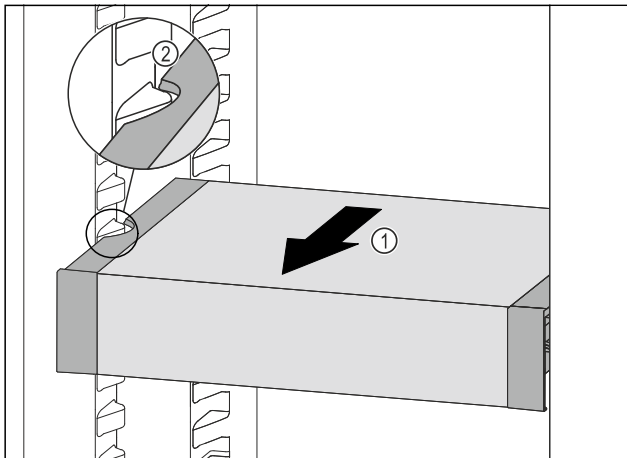

Fig. 99
- Pull VarioSafe forward Fig. 99 (1) until the recesses in the side of the VarioSafe are at the level of the support rib in the refrigerator compartment. Fig. 99 (2)